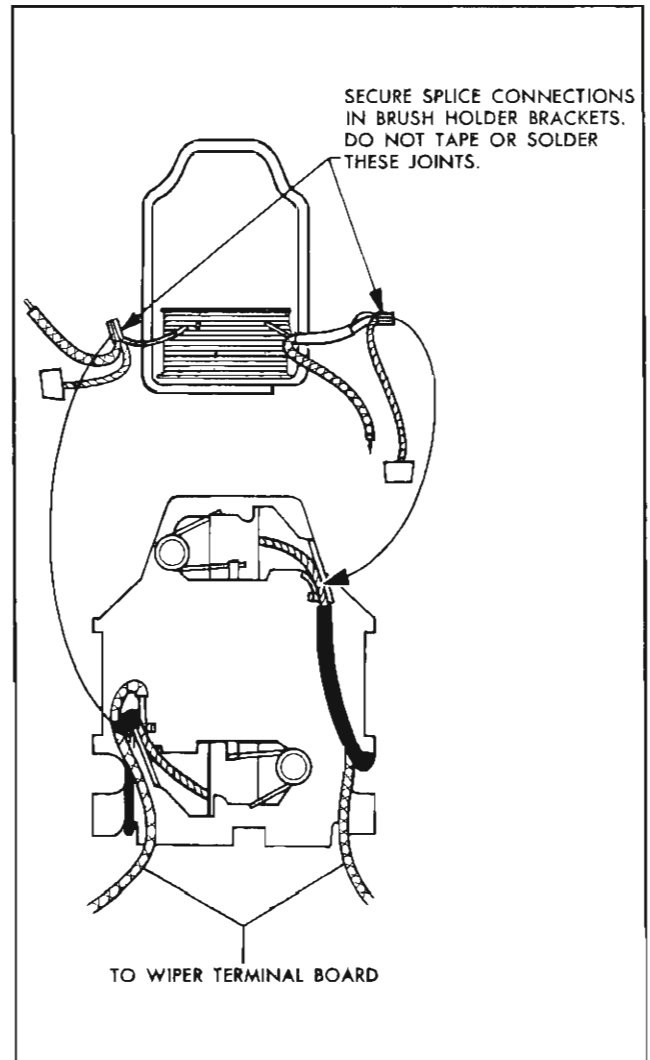

Fig. 11-64 Motor Splice Connections
2. Disassemble motor section and check all splice connections (Fig. 11-64).
d. Brush pigtail connections at splice joints (Fig. 11-64).